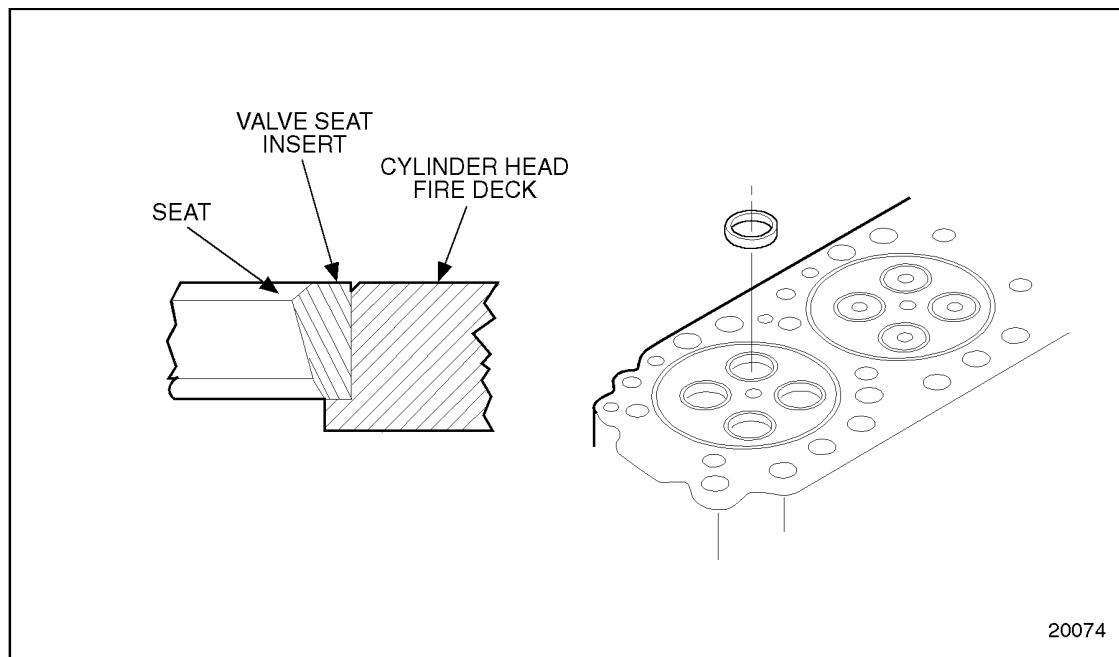

Figure 1-79 Valve Seat Insert Insertion
3. Start the insert squarely into its counterbore with the seat facing up. See Figure 1-79.